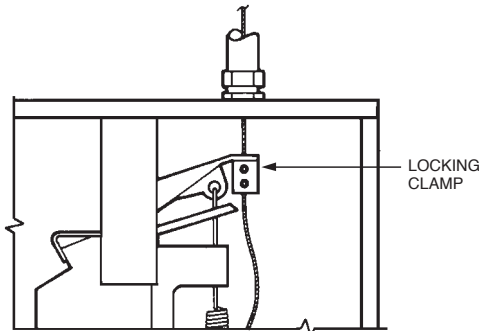

FIGURE 5-24
- Starting at the release assembly, feed the wire rope through the hole in the release mechanism locking clamp, allowing the excess wire rope to hang down. Do not tighten set screws in locking clamp at this time. See Figure 5-24.